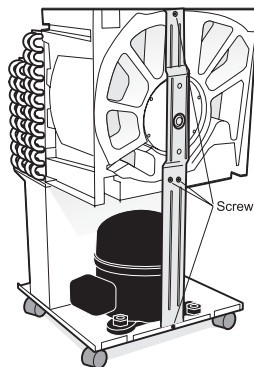

Figure 9c
3. Remove four screws from motor bracket. (See Figure 9c.)